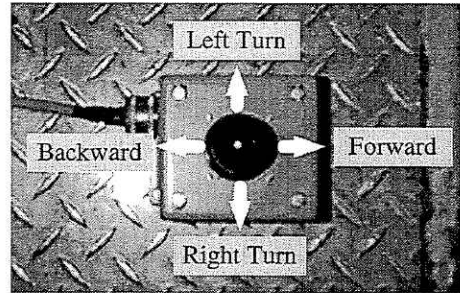

**Figure 6-5.** Joystick
3. Figure 6-5 shows the joystick control device.